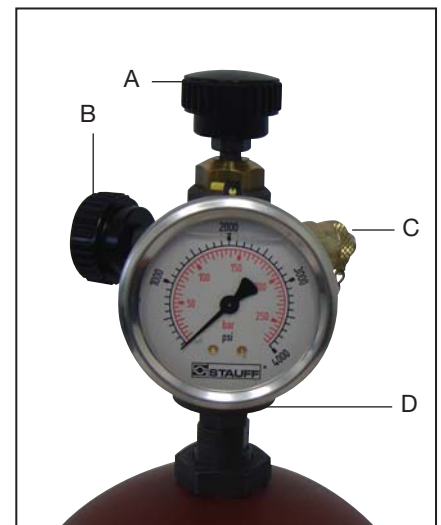

Figure 1.
6. To reduce pressure, open bleed valve B (Figure 1.) carefully, allowing gas to escape until desired pressure is obtained.